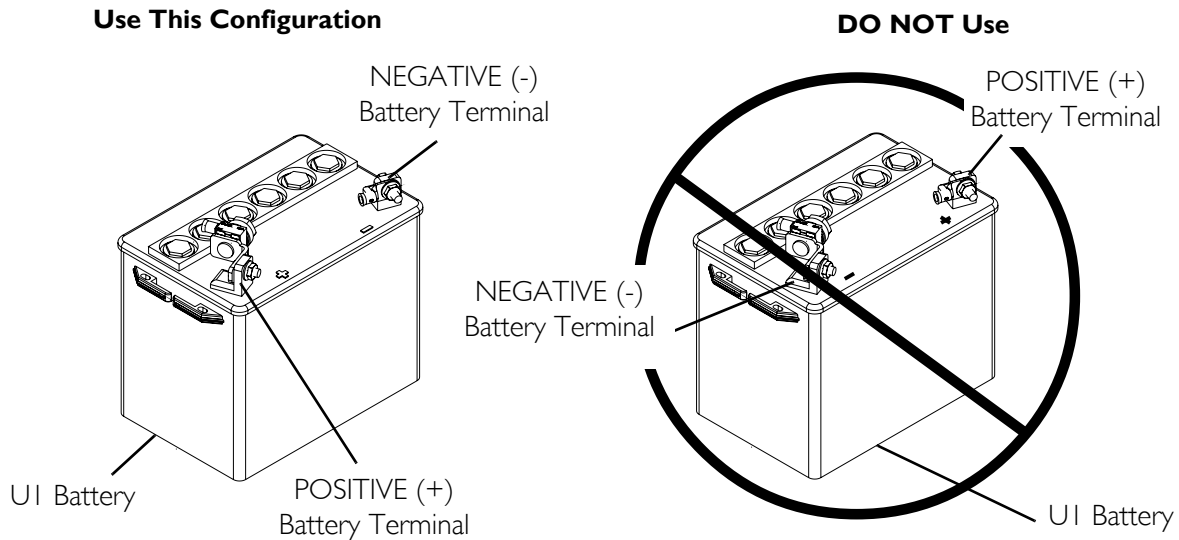

FIGURE 9.1 Using the Proper Batteries
NOTE: For this procedure, refer to FIGURE 9.1.
2. Visually draw a horizontal and vertical centerline through the middle of battery (FIGURE 9.1).
4. Visually inspect the battery to ensure the correct position of the POSITIVE and NEGATIVE terminals (FIGURE 9.1).